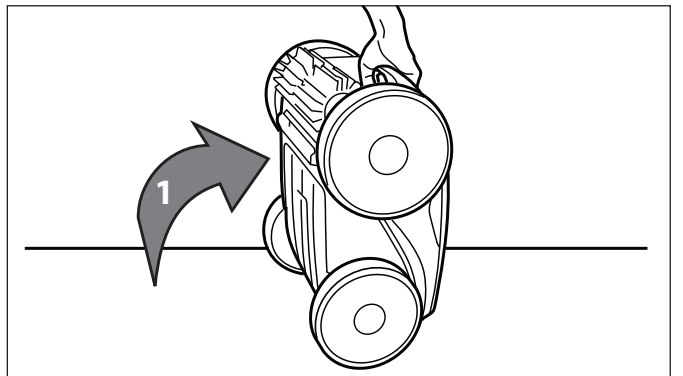

Figure 33. Cleaner in Upright Position
1. Lift the cleaner to a vertical position so that the handle is up (Figure 33).